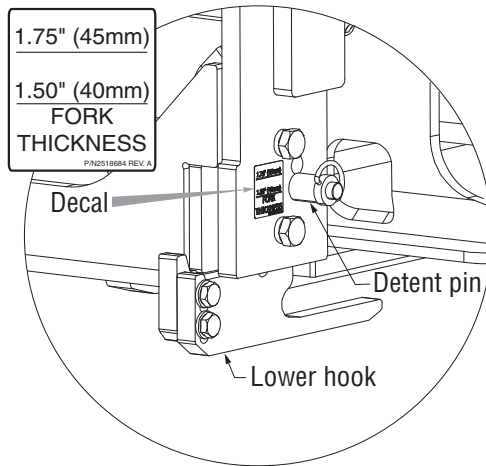

Figure 4-5, Fork Mounted Attachment
5. Depress button on the detent pin and pull the pin out. Reach under attachment and hand-raise the lower hook to align the lower hook holes and the attachment holes, lifting directly under the pin. Insert the detent pin in the hole corresponding to the lift truck's fork thickness, see decal. Repeat for opposite side. (Figure 4-5)